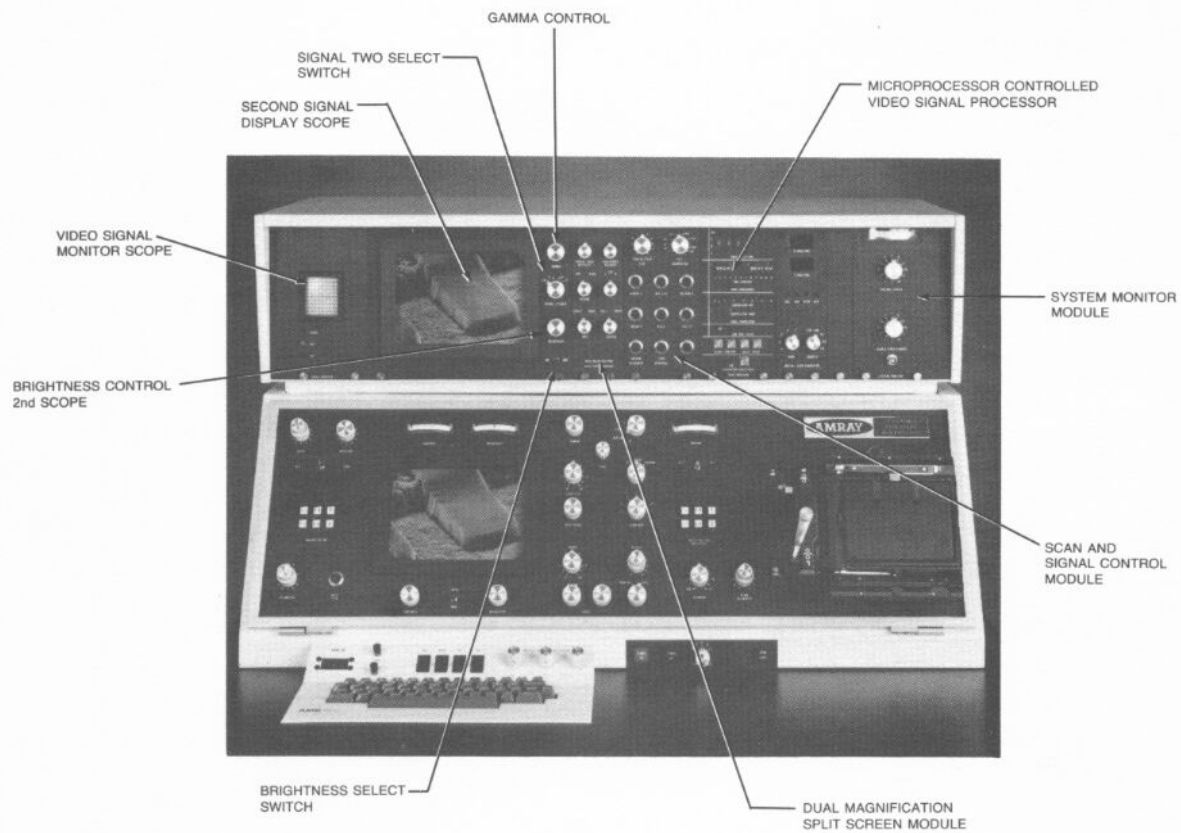

Figure 1.9
H. Auxiliary Control Panel (figure 1.9)
This section of the Electronics and Display Console contains features and controls which support and enhance the systems contained in the Main Control Panel. figure 1.9 displays those listed below.